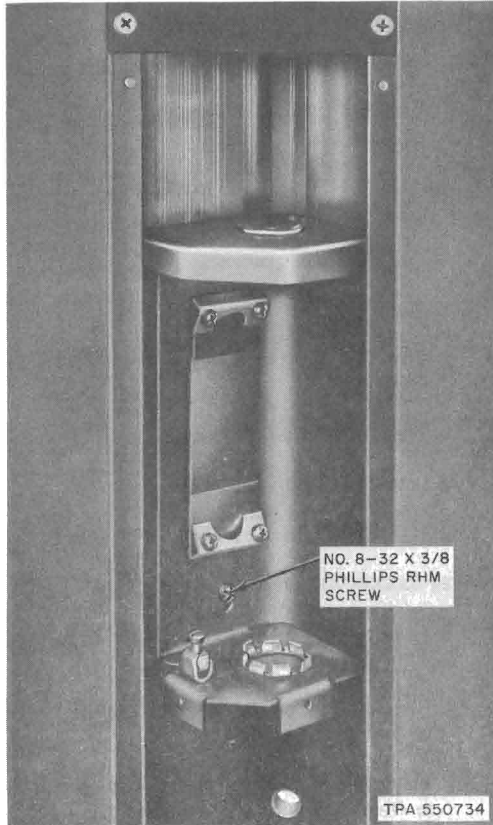

Fig. 21—Installation of Circuit Breaker Box in Lower Backboard
3.26 Install the KS-19426, List 17 circuit breaker box (if applicable) per Fig. 21. Have local electrician install circuit breakers.